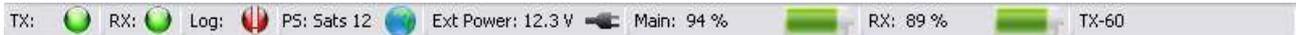

Figure 27. Information bar
- In the Configuration panel, transmitter loop type is chosen as well as receiver antenna types for each input channel (A and B). It is done from respective drop-down menu. When choosing a pre-defined transmitter loop, parameters such as Number of turns, Loop size and Turn on- and off times will automatically be loaded and displayed in their respective fields. When choosing a pre-defined receiver coil, their respective lead-in cable lengths will also be automatically loaded in their respective fields. These lengths can be changed by the user if for instance an extension cable is used together with the receiver coil. As a sub-set in the Receiver Antenna(s) panel, it is possible to enter offset position values for the receiver coils in relation to the transmitter loop, see figure 27. This is done if the receiver loop(s) is not centered in the transmitter loop, otherwise these fields can be left with the value 0. All entered values will be stored together with the measuring file.